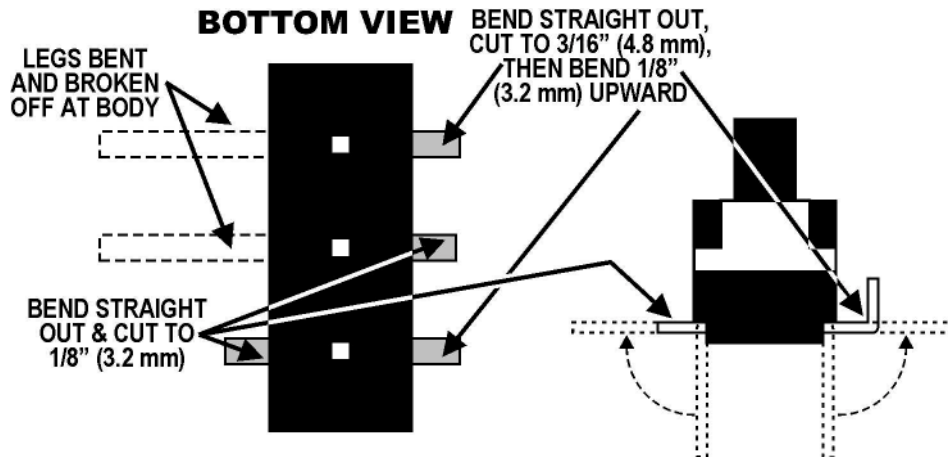

Figure 8
- E. Locate a miniature DPDT slide switch. Prepare its pins as illustrated in Figure 8. Carefully tin all five of the switch leads.